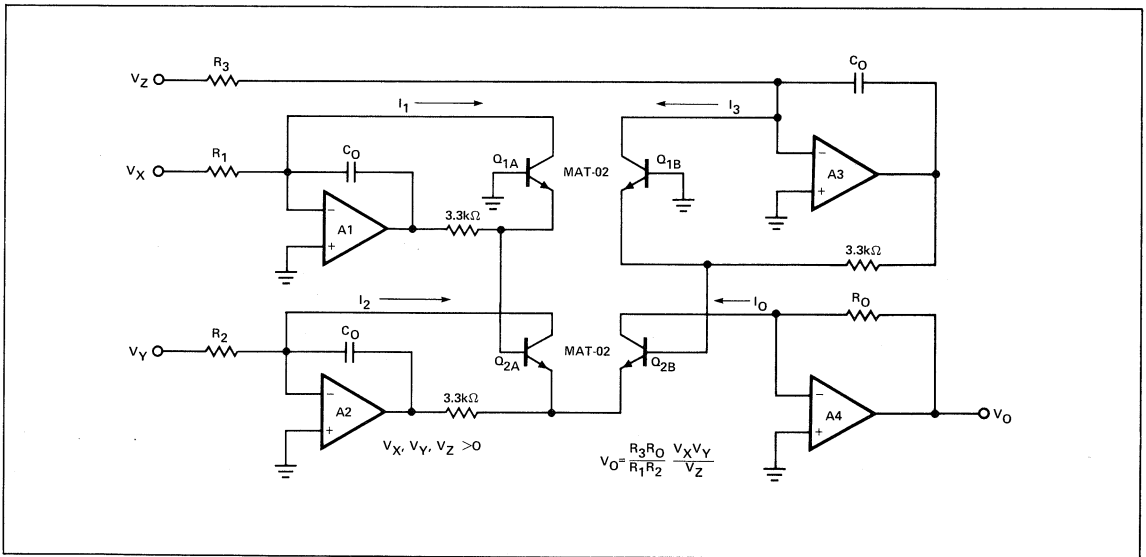

Figure 1. One-Quadrant Multiplier/Divider
The excellent log conformity of the MAT-02 over a very wide range of collector current makes it ideal for use in log-antilog circuits. Such nonlinear functions as multiplying, dividing, squaring, and square-rooting are accurately and easily implemented with a log-antilog circuit using two MAT-02 pairs (see Figure 1). The transistor circuit accepts three input currents (I_1 , I_2 , and I_3) and provides an output current I_O according to $I_O = I_1 I_2 / I_3$. All four currents must be positive in the log-antilog circuit, but negative input voltages can be
For the circuit shown in Figure 1, the operational amplifiers make $I_1 = V_X / R_1$, $I_2 = V_Y / R_2$, $I_3 = V_Z / R_3$, and $I_O = V_O / R_O$. The output voltage for this one-quadrant, log-antilog multiplier/divider is ideally:
Returning to the multiplier/divider circuit of Figure 1 and using Equation (4):
In more complex circuits, such as the circuit in Figure 1, it may be inconvenient to apply a compensation voltage to each individual base. A better approach is to sum all compensation to the bases of Q1. The "A" side needs a base voltage of $(V_O/R_O + V_Z/R_3) r_{BE}$ and the "B" side needs a base voltage of $(V_X/R_1 + V_Y/R_2) r_{BE}$. Linearity of better than $\pm 0.1\%$ is readily achievable with this compensation technique.